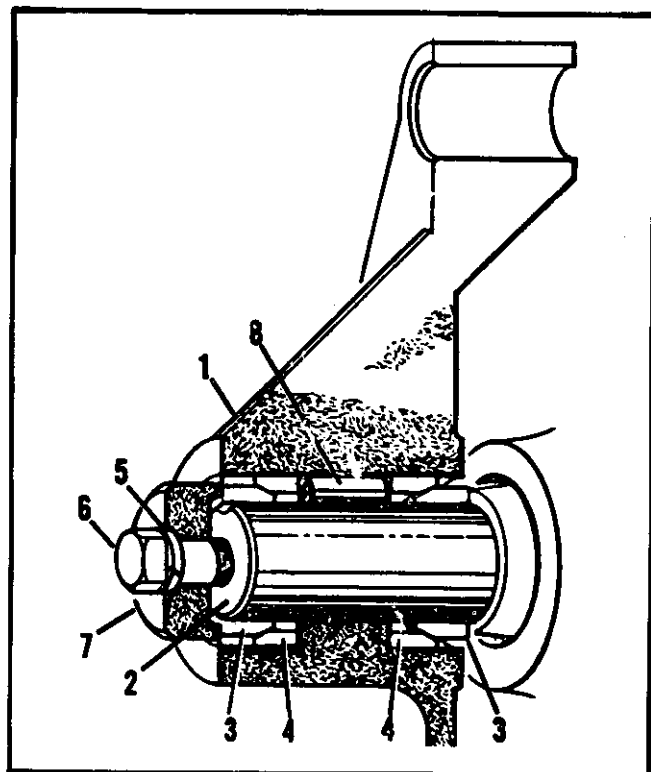

Figure 3-5. Gripspring installation
c. Gripsprings: During reassembly of the compressor, it is essential that the gripsprings (70, Fig. 5-19) be installed in the correct sequence. Improper installation of the gripsprings will result in slippage between the shaft and the coupling and cause excessive wear. Refer to Figure 3-5 and assemble the gripsprings as follows:
(1) Install smaller gripspring (3) on shaft (2) with beveled edge out.
(2) Position larger gripspring (4) over gripspring (3) so that the beveled edges meet.
(3) Install key (8) on shaft. Slide coupling (1) on shaft and over key and gripsprings until it seats.
(4) Position second larger gripspring (4) in coupling with beveled edge facing outward.
(5) Install second smaller gripspring (3) on shaft. Be sure beveled edges of gripsprings (3 and 4) match.
(6) Position gripspring retainer (7) and secure with washer (5) and bolt (6).